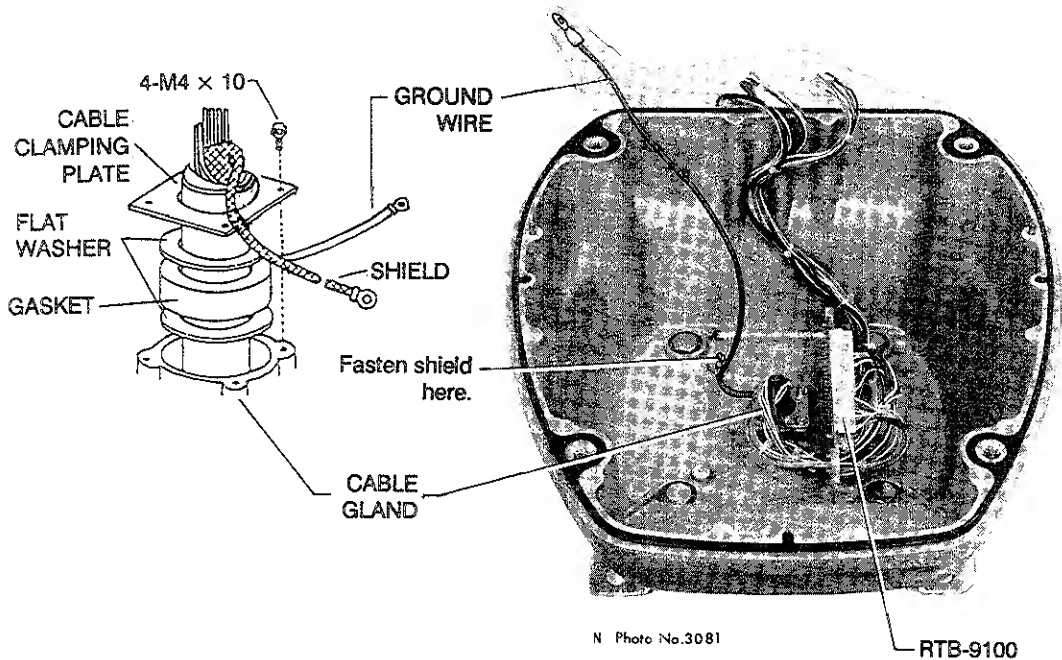

Figure 5-3 Passing the signal cable through the scanner housing
- 5) Connect the lead wires to RTB-9100 in the scanner housing by referring to the Interconnection Diagram on page S-1. Fasten the shield (inner and outer combined) at the bottom of the scanner housing as shown in Figure 5-3.